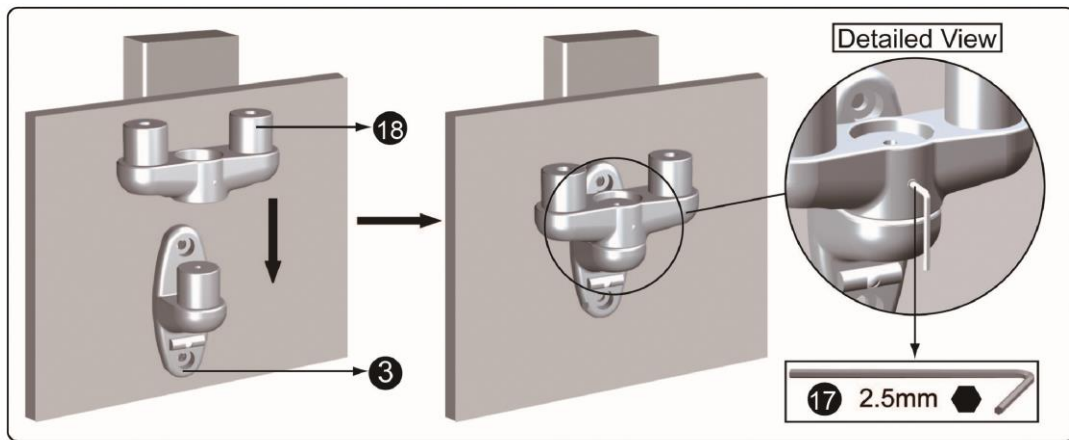

Figure 1-4
4. Install the DEK (18) onto the wall plate (3) pole. To secure the DEK, tighten the hex screw using the 2.5mm Allen Wrench (17) (See Figure 1-4).